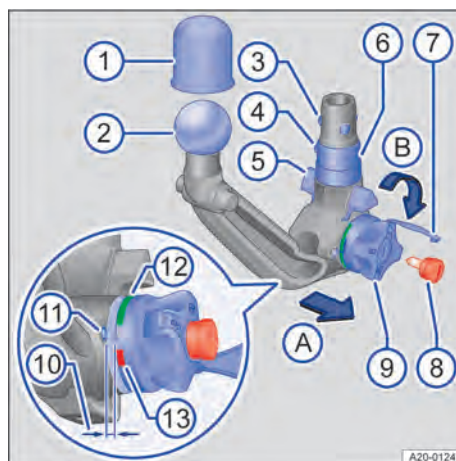

Fig. 143 Overview: Detachable ball coupling.
4. Check to ensure that the mounting, handwheel → Fig. 143 ⑨, shank ⑥ and the retaining balls ③ of the ball coupling are all clean and undamaged → ①. Clean if necessary.
1. Grasp the ball coupling underneath the ball coupling → Fig. 143 ② with one hand.
2. Remove the lock cap → Fig. 143 ⑦ from the lock and insert the key ⑧ into the lock.
3. Turn the key → Fig. 143 ⑧ anticlockwise.
4. Use your other hand to pull out the handwheel → Fig. 143 ⑨ in the direction of arrow A and hold it in this position → A.
5. Turn the handwheel → Fig. 143 ⑨ in the direction of the arrow B until it engages. The ball coupling is now pre-tensioned. The red marking ⑬ on the handwheel must point towards the white marking ⑪ on the ball coupling. The handwheel protrudes clearly from the ball coupling. The gap between them is approximately 4 mm ⑩.
6. Check to see whether all retaining balls → Fig. 143 ③ can be pressed fully into the ball coupling shank ⑥.
2. Push the ball coupling firmly upwards until it engages. Both centring devices → Fig. 143 ⑤ must engage in the mounting points on the vehicle.
3. The handwheel → Fig. 143 ⑨ has now returned to its original position. There is no longer a gap between the handwheel and the ball coupling.
4. Turn the key → Fig. 143 ⑧ in the handwheel clockwise and remove it.
5. The handwheel → Fig. 143 ⑨ may now no longer be pulled out.
6. Fit the lock cap → Fig. 143 ⑦ on the lock and place the key in the stowage box.
1. The green marking → Fig. 143 ⑫ on the handwheel must point towards the white marking on the ball coupling ⑪.
2. The handwheel → Fig. 143 ⑨ must rest on the ball coupling and there must be no gap between them.
3. Shake or pull down on the ball coupling → Fig. 143 with some force. It must sit firmly in the mounting → A.
4. The lock must be locked and the key → Fig. 143 ⑧ removed.
5. The lock cover → Fig. 143 ⑦ must cover the lock in the handwheel.
- Never use the towing bracket if the smallest diameter of the ball → Fig. 143 ② is less than 49 mm (1.9 in).